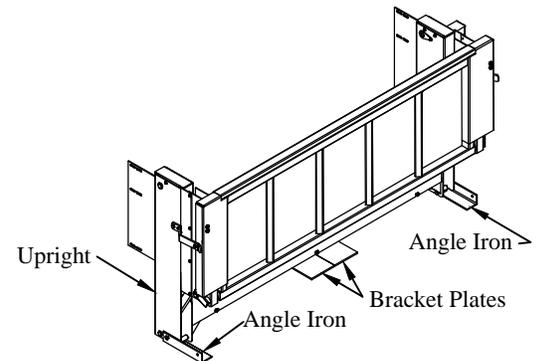

Figure 2: Complete liftgate (G² shown).
4. **Unbolt** the two (2) angle irons attached to the liftgate uprights (Figure 2).
5. **Remove** the two (2) bracket plates attached to the liftgate (Figure 2).